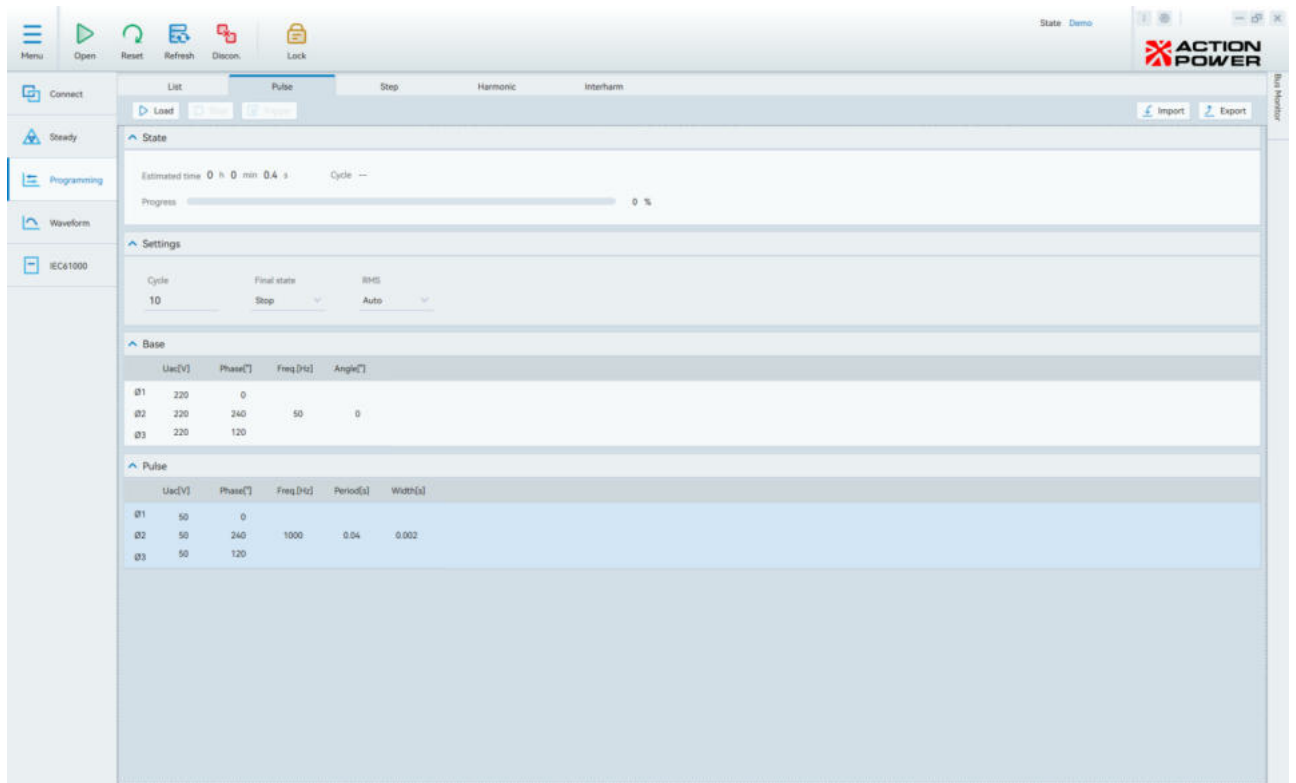
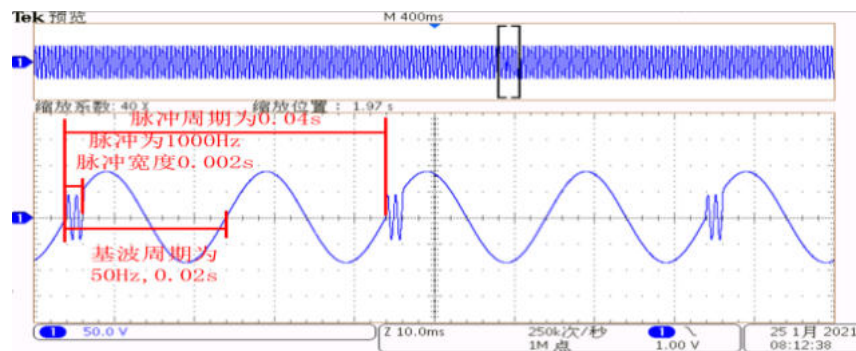

Figure 6.2.5 Schematic Diagram of Transient Pulse Configuration
Figure 6.2.6 Transient Pulse Waveform Diagram
- Example: Select AC for the coupling mode, set the output phase to three-phase synchronous operation, configure the transient pulse as shown in Figure 6.2.5, and the corresponding waveform is shown in Figure 6.2.6.